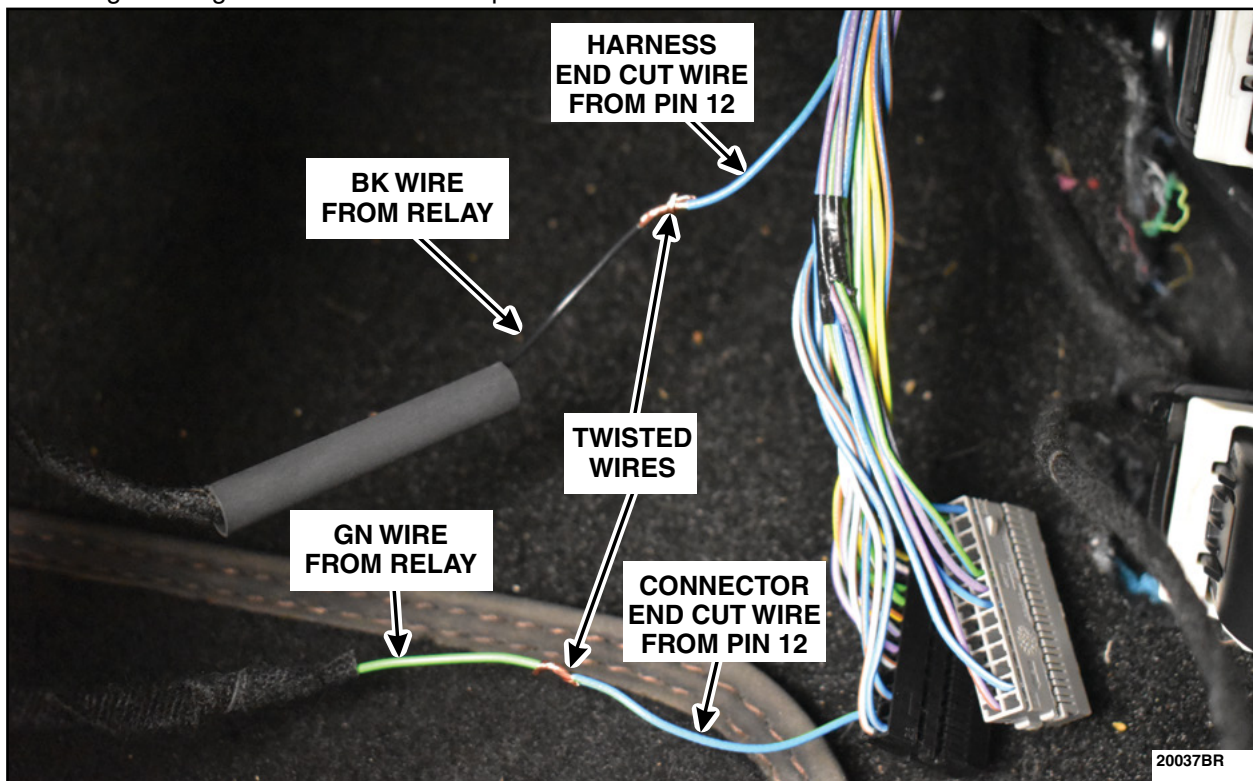

FIGURE 39
57. Apply heat shrink tubing to the BK and GN wires from the relay. Twist the BK wire from the relay to the harness end of the cut wire from pin 12. Twist the BK wire from the relay to the connector end of the cut wire from pin 12. Solder the twisted wires and seal the solder connection with the heat shrink tubing. See Figure 39. Proceed to Step 59.